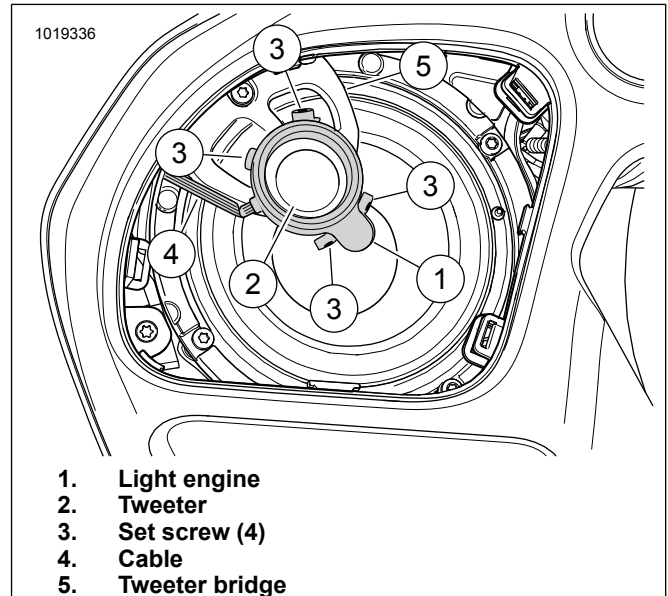

Figure 6. FLTR Left Fairing Speaker
See Figure 6. Place light engine (1) on tweeter (2) as shown. Lightly compress light engine in place.